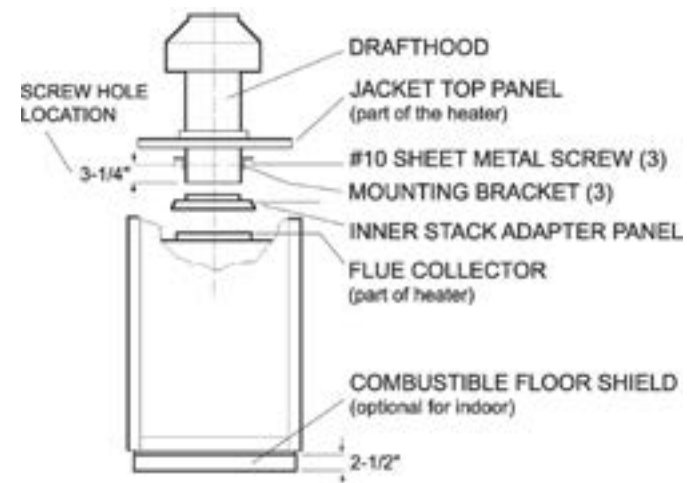

Figure 13. Indoor Installation for Models 0181-0401 and 0182-0400
1. Remove the louvered jacket top by removing four (4) #10 flathead screws.
6. Attach the three (3) mounting brackets to the stack using the screws provided and the holes that are pre-drilled in the stack. Make sure the brackets are positioned with the flange near the top side of the stack. See Figure 13. Caution must be taken not to over tighten and strip the screw threads.